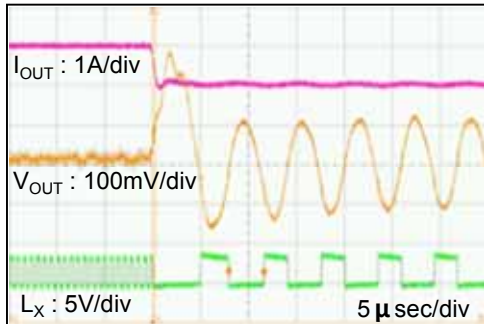
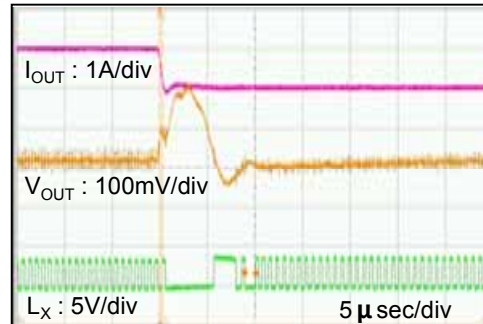
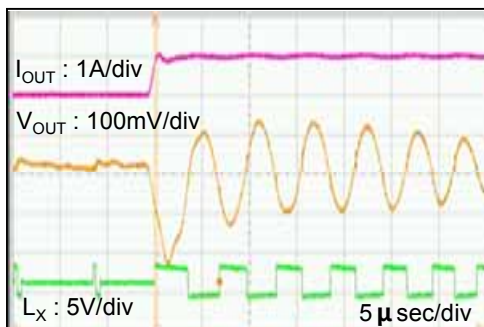
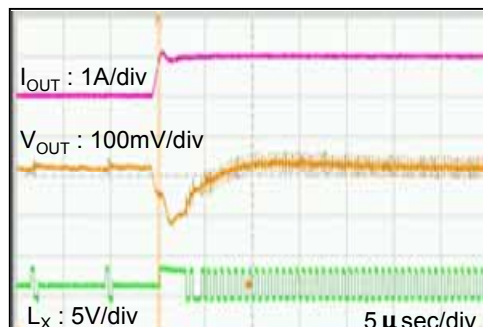

Fig.14-1 Insufficient C_L ($T_a = -40^\circ\text{C}$, $C_L = 10\ \mu\text{F}$)
Fig.14-2 Sufficient C_L ($T_a = -40^\circ\text{C}$, $C_L = 20\ \mu\text{F}$)
Fig.14-3 Insufficient C_L ($T_a = -40^\circ\text{C}$, $C_L = 10\ \mu\text{F}$)
Fig.14-4 Sufficient C_L ($T_a = -40^\circ\text{C}$, $C_L = 20\ \mu\text{F}$)
14. If the capacitance value is not sufficient by degrading C_L due to the low temp. condition and DC bias feature, 100% duty cycle might come up for the load transient condition. Add capacitance value for C_L if necessary. (Refer to Fig14-1, Fig14-2, Fig14-3, Fig.14-4)